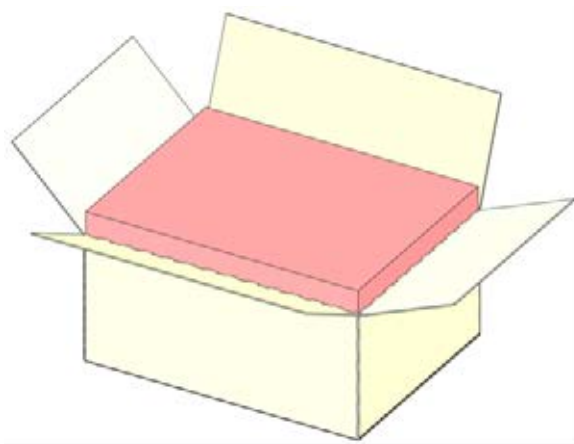

Figure 89: Over Fill
2. Fold major flaps inward, as shown in Figure 89